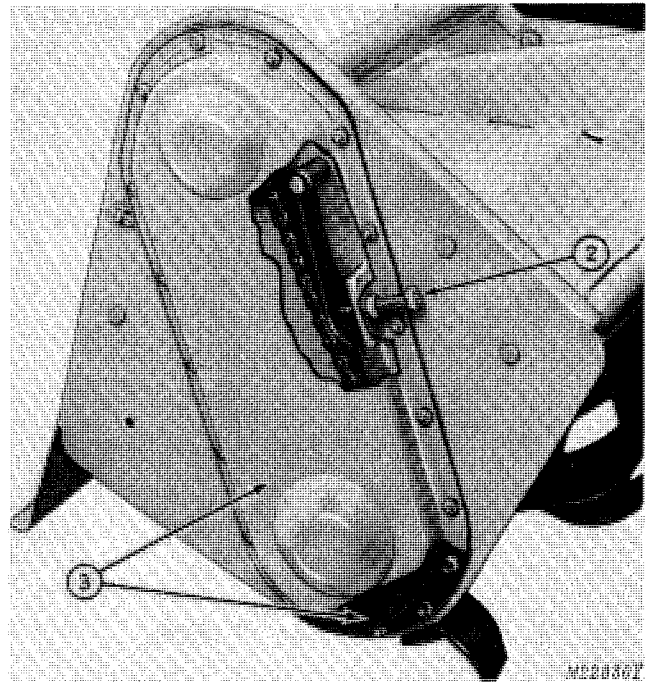

Fig. 10-Removing Chain Cover
2. Remove chain tensioner bolt, Fig. 10.
10. Pack approximately 1-1/2 pounds (0.68 kg) of John Deere Multi-Purpose Lubricant or equivalent SAE multi-purpose-type grease in lower part of cover, Fig. 10.